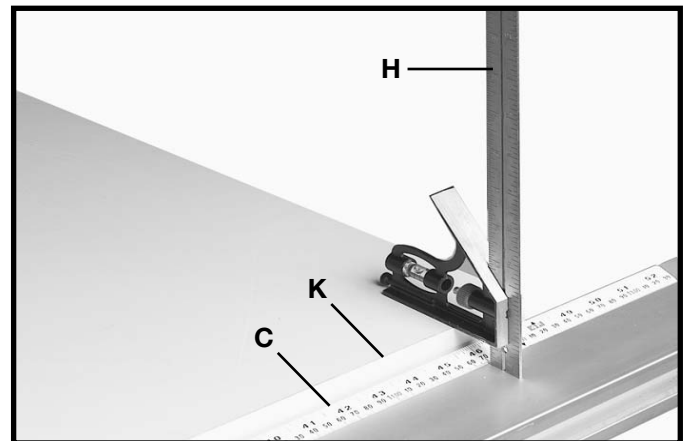
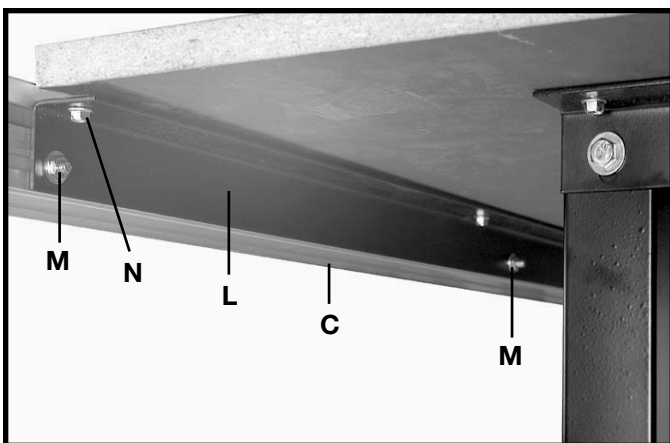

Fig. 78
Fig. 79
8. Move the square (H) Fig. 78, to the end of the Unifence table and check to make certain the same distance is maintained from the top surface of the extension table (K) to the top surface of the guide rail (C). Move the front table support (L) Fig. 79, against the guide rail (C), and fasten with 1/4-20 nut and flat washer (M). Tighten two wood screws, one of which is shown at (N) Fig. 79, that fasten the Unifence table to the guide rail.